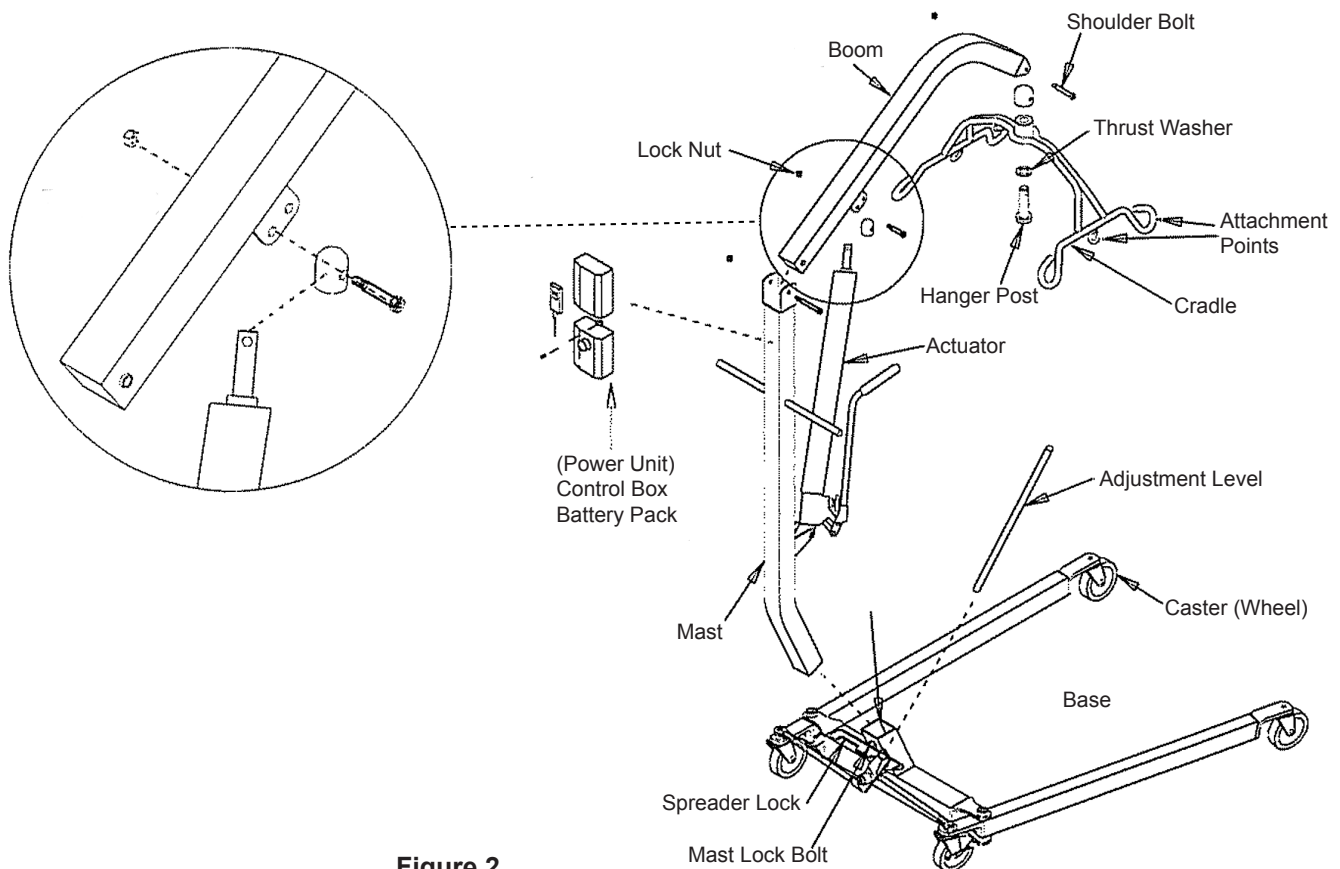

Figure 2
- Place base of lifter on a hard even surface with the wheels contacting the surface. Insert the mast in sleeve of base making sure that it is fully engaged. Tighten the mast lock bolt (Figure 2). Make sure boom points in the same direction as base legs. Keep mast locked at all times except while storing.
- Place adjustment handle into socket as shown (Figure 2). Pull adjustment handle back to unlock. Handle can be moved to the right to widen the base to 39 1/2" or to the left to narrow the base to 24".
- Remove boom from filler and attach to top of mast as shown (Figure 2).
- Attach to of actuator to boom with cap and hardware. **Note:** Attach first to hole on bracket (Figure 2), second hole can be used for heavier patients to ease the load on actuator, however the vertical lifting range will lose 4 inches.
- Attach cradle to the end of boom with cap and hardware (Figure 2).